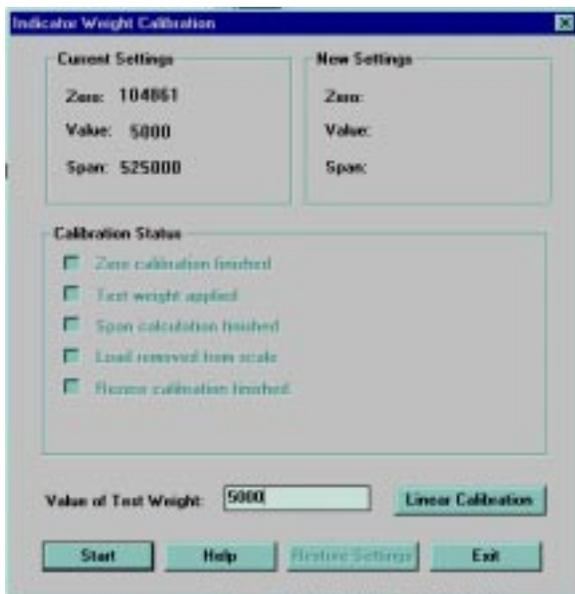

Figure 4-3. Revolution Scaleware Calibration Display
3. Revolution Scaleware uploads calibration data from the indicator then presents the information in a display like that shown in Figure 4-3.